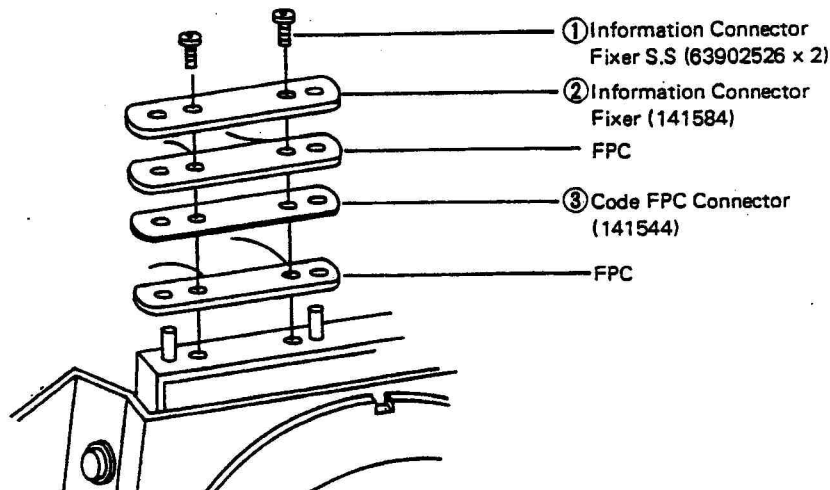

Fig. 55
f) Remove the respective parts ① ~ ③ shown in (fig. 55) in numerical order.